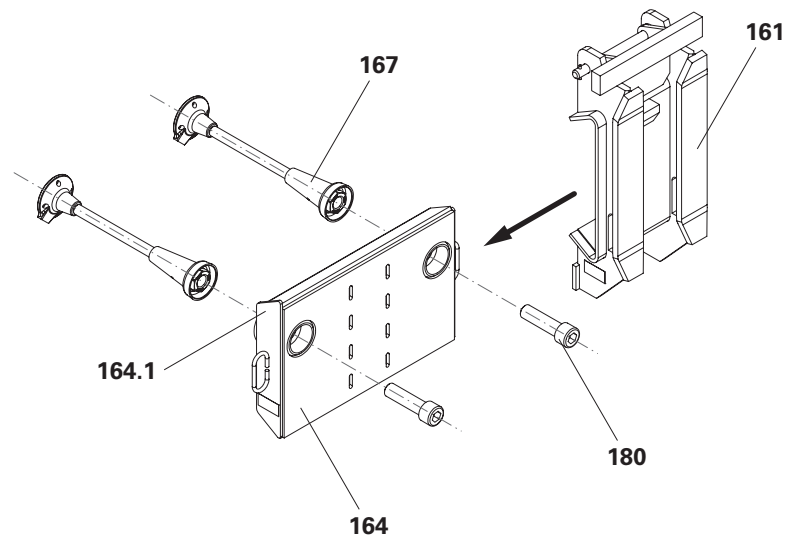

Fig. A3.12
1. Screw tie tubes (163) and (164) with Cyl. bolt ISO 4762 M30 x 110-10.9 (180) to climbing tie (167).
2. Slide Climbing Shoe II ACS (161) onto tie tube (163) or (164), align and fix with clamping screw (161.1). (Fig. A3.12 + A3.13)